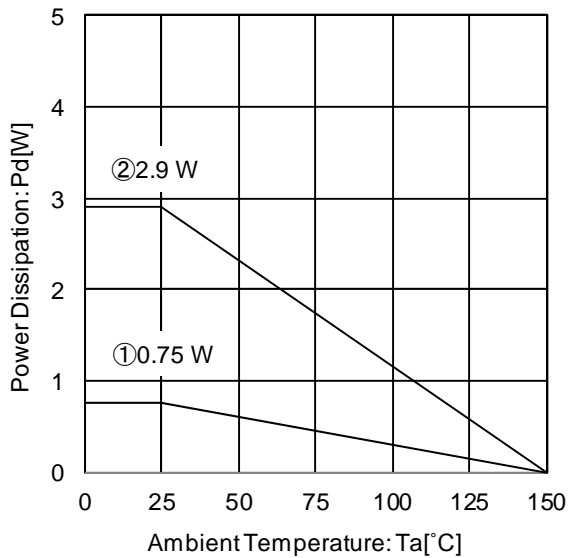

Figure 25. Package Data (HTSOP-J8)
Refer to the heat mitigation characteristics illustrated in Figure 25 to Figure 27 when using the IC in an environment of $T_a \geq 25^\circ\text{C}$. The characteristics of the IC are greatly influenced by the operating temperature, and it is necessary to operate under the maximum junction temperature T_{jmax} . Even if the ambient temperature T_a is at 25°C it is possible that the junction temperature T_j reaches high temperatures. Therefore, the IC should be operated within the power dissipation range.
At $T_a=125^\circ\text{C}$ with Figure 25 ② condition, the calculation shows that ca 56.4mA of output current is possible at 10.2V potential difference across input and output.
At $T_a=125^\circ\text{C}$ with Figure 25 ② condition, the calculation shows that ca 67.7mA of output current is possible at 8.5V potential difference across input and output.